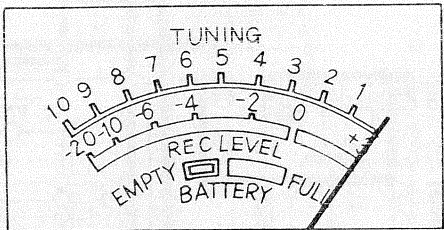

Fig. 8
- Adjust R32 so that the pointer of level meter stays as shown in fig. 8.